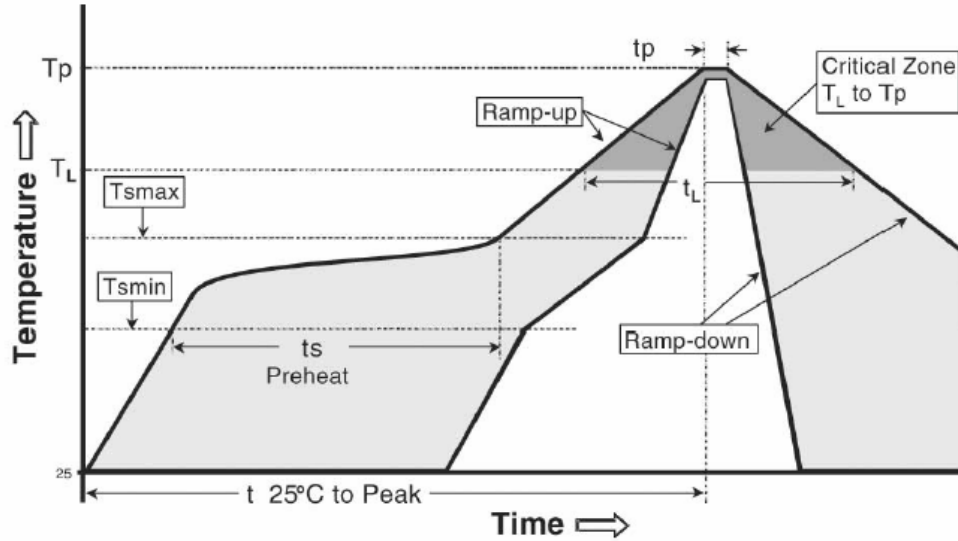

Figure 1 JEDEC Recommended Lead-Free Reflow Profile
- (b) **Reflow Profile Guidelines.** The solder reflow profile should follow the paste manufacturer's recommendation and the general JEDEC/IPC standard J-STD-20 guidelines. Figure 1 shows the range of temperature profiles of The J-STD-20 specification. The profile parameters and component peak temperature guidelines are listed in Table 1 and Table 2. Note all specified temperatures in Table 1 and 2 refer to the temperatures measured on the top surface of the package.